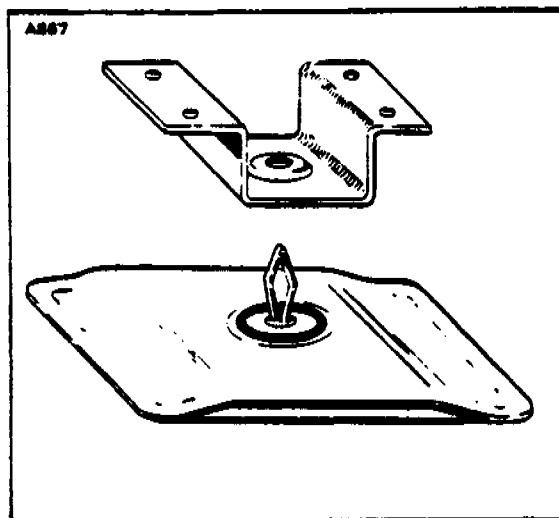

FIGURE 8-7. BAYONET FASTENERS
g. Insert the arm between the fuel cell and top of the wing, work outward from the opening releasing the cell support bayonet clips. (Refer to figure 8-7.) The clips fit into compartment fasteners and can be released by exerting pressure inward on all PA-24 series aircraft except the outboard cells of the PA-24-400. After releasing all upper clips, release the lower clips.